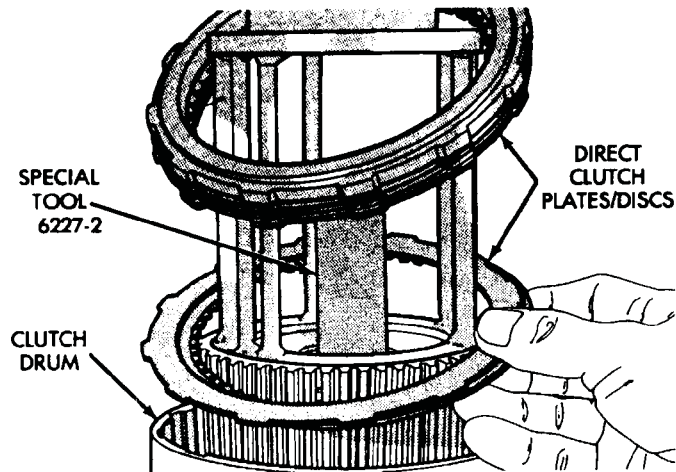

Fig. 61 Seating Clutch Pack In Drum
(26) Slowly compress clutch hub and spring (Fig. 61). Compress spring and hub only enough to expose ring grooves for clutch pack snap ring and clutch hub retaining ring.
(27) Realign clutch pack on hub and seat clutch discs and plates in clutch drum (Fig. 61).